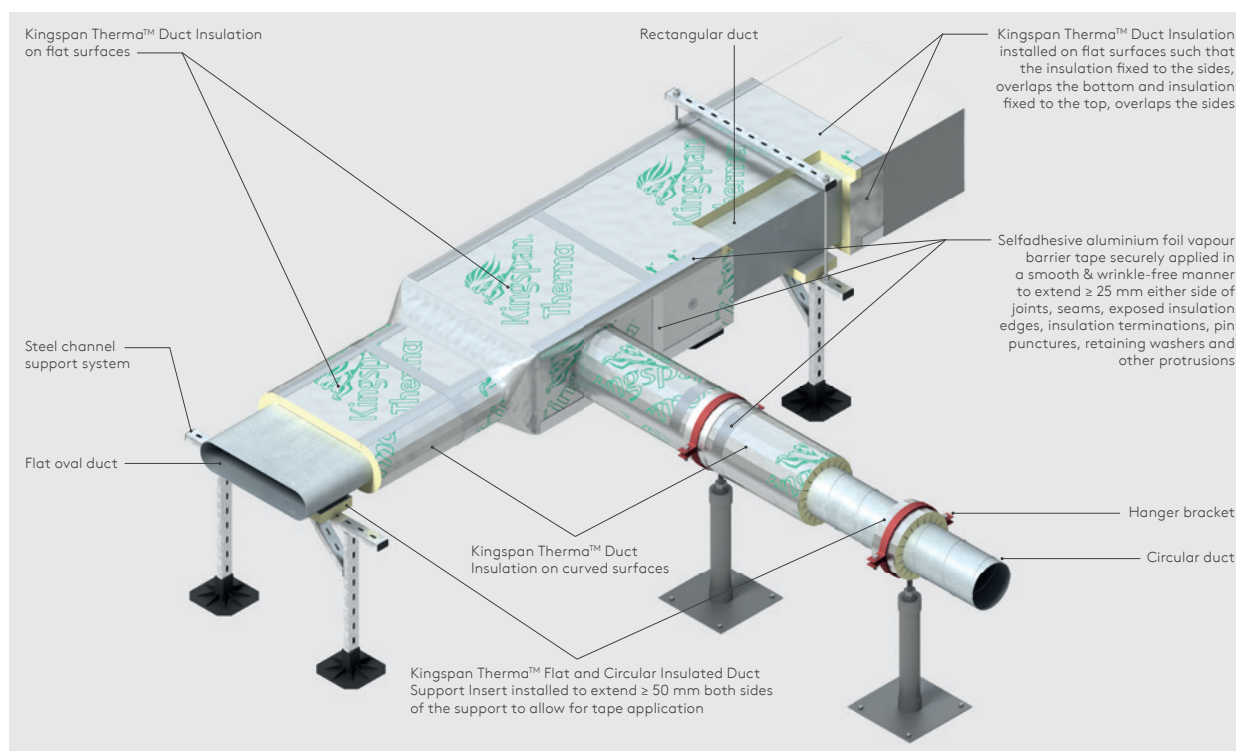

Figure 1: Fixing Details
- On horizontally orientated ducts, the insulation fixed to the sides overlaps the bottom and insulation fixed to the top overlaps the sides (see Figure 1 on page 2 of this document).